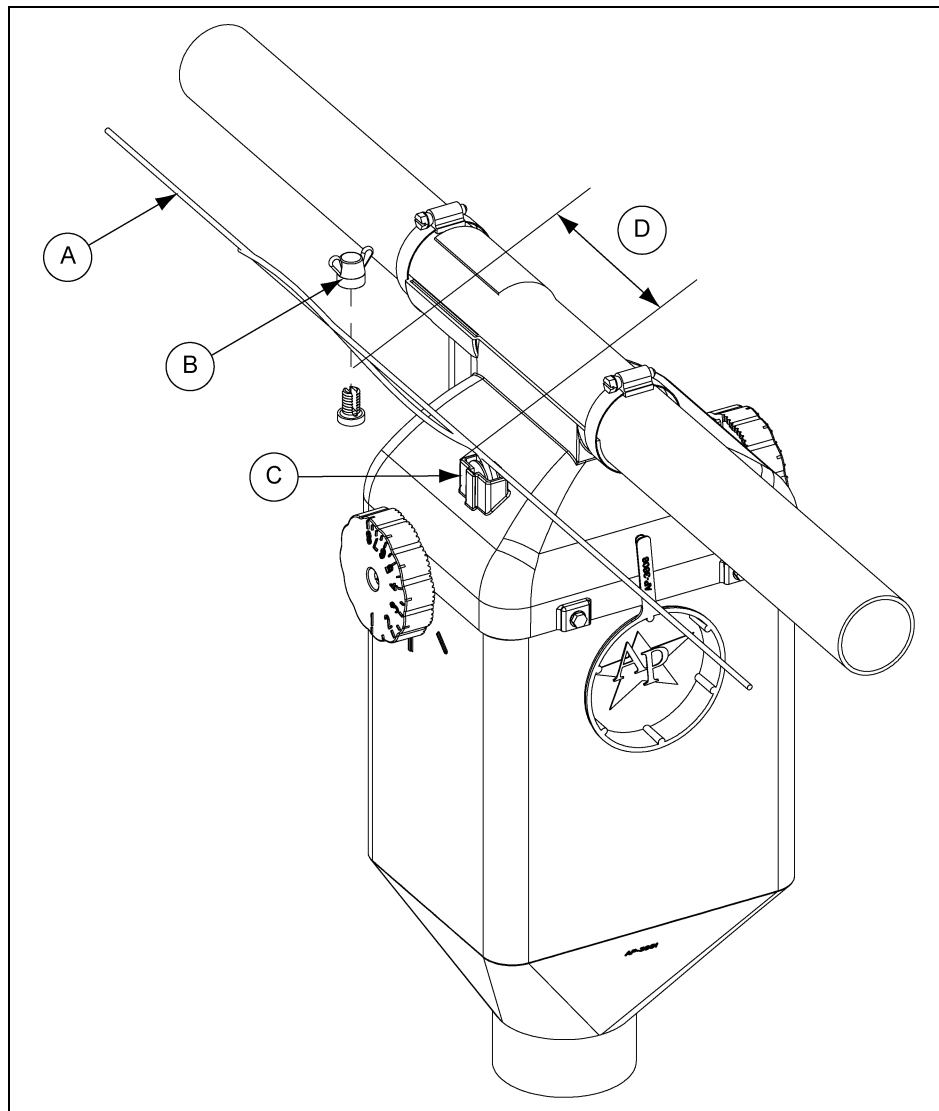

Figure 3S Connection of Ball to Trip System
2. Starting with the Ultra-Drop closest to the actuator, pull the ball until they hit the top of the Ultra-Drop. (See Figure 3S.)
3. Connect the cable to the rod using the plastic cable clamp (B), making sure there is at least 12" between the plastic cable clamp (B) and rod guide (C) to allow the ball to drop completely.